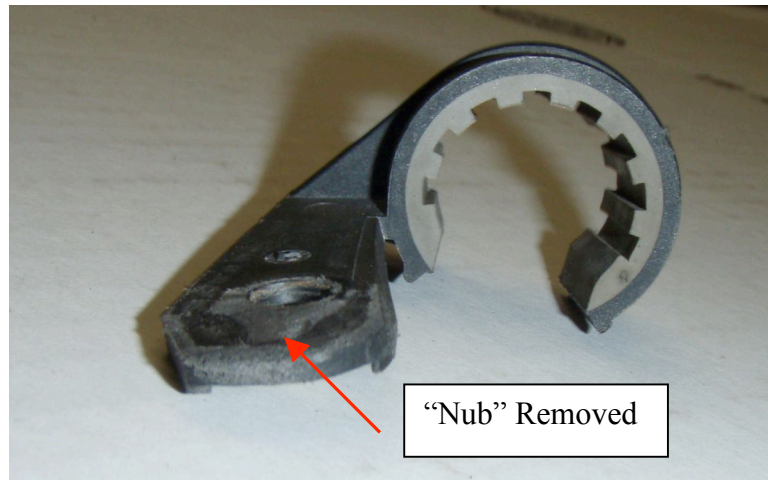

Figure 15
- 21) Modify the lower AC hose bracket by filing the "nub" off of the bracket so it can sit flush on the APIKOL intercooler. See Figure 15 below.